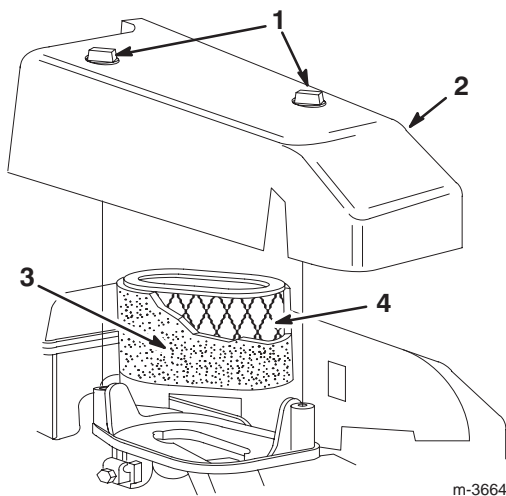

Figure 24
3. Remove the two knobs that secure the air cleaner cover to the engine (Fig. 24).